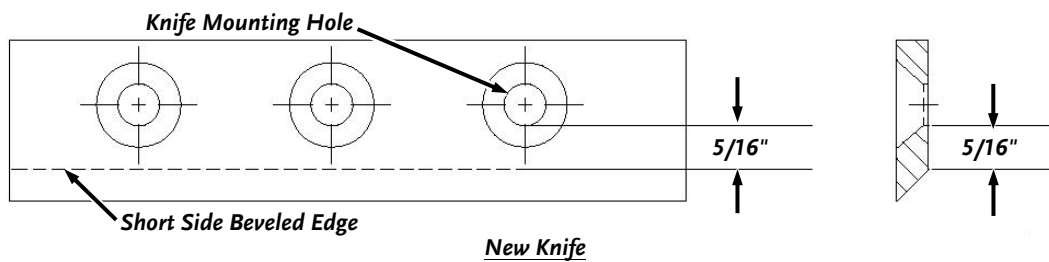

Figure 24
- A new Chipper Knife has a $5/16"$ measurement between the short side bevel edge and the Knife mounting holes (**Figure 24**).